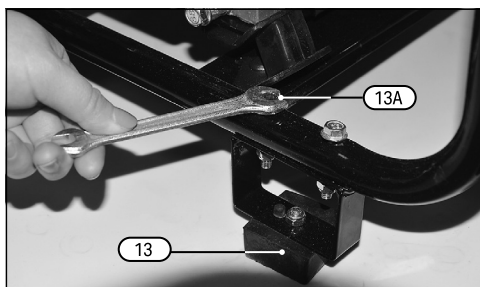

Fig. 2
3. Slide a wheel (2) onto each axle with the raised bore extending inwards.
6.2 Attach the Support Feet (Fig.2)